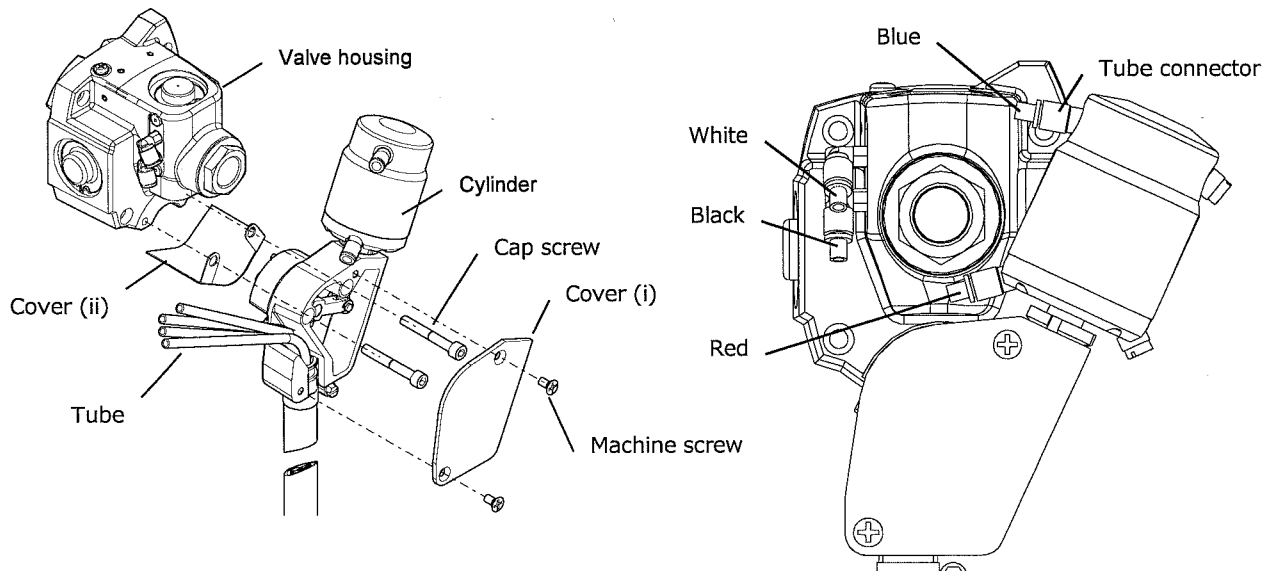

Fig.1
■Fitting Pendant switch to the main body (See Fig. 1)